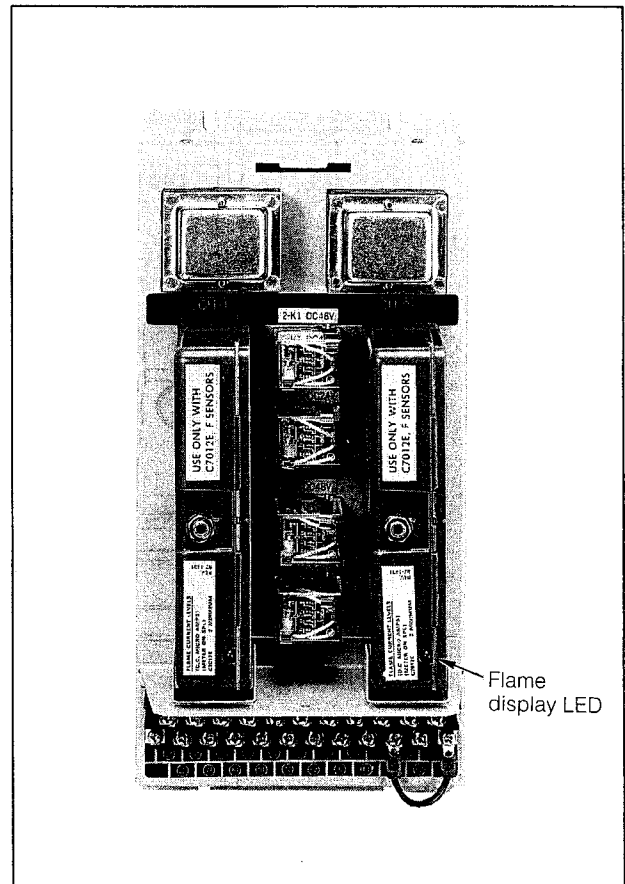

Fig. 2. Installation of Amplifier
- (2) After loosening the cover screws, detach the cover and mount the amplifier as shown in Fig. 2.
- (3) Insert the PC board into the connector securely with the amplifier nameplate facing outward as shown in Fig. 2.
- (4) Remount the instrument cover.